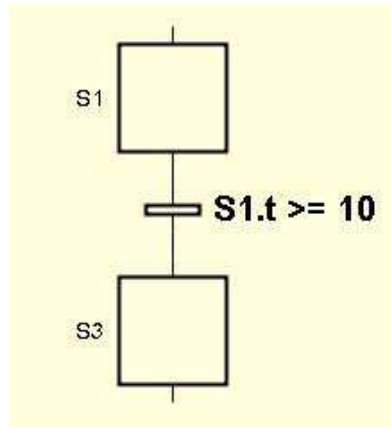

Figure 7 Transition
Transitions Transitions represent conditions or events that should be true (1) in order for the Grafset to change state. The transition expression is represented by a text string associated with the transition, see Figure 7. A transition expression is edited